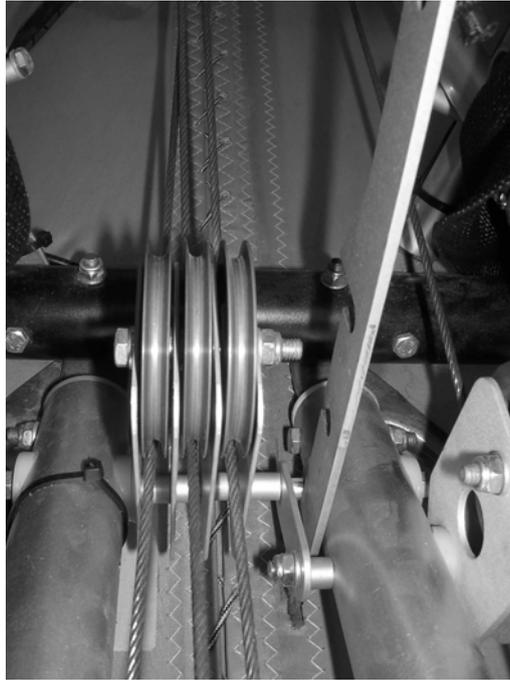

Figure 108; rudder and elevator pulleys. Rudder pulleys furthest left and right, elevator pulleys second and third from left.
- a) Assemble the single pulley onto the outside of the port central cabin tube **tu19**, Figure 108.
*Don't forget the flap detent lever retaining plate and its spacer tubes mounted on both the port rudder pulley mounting bolt and the main pulleys mounting bolt, shown on the left side of the rightmost, port, central cabin tube **tu19** tube in Figure 108.*